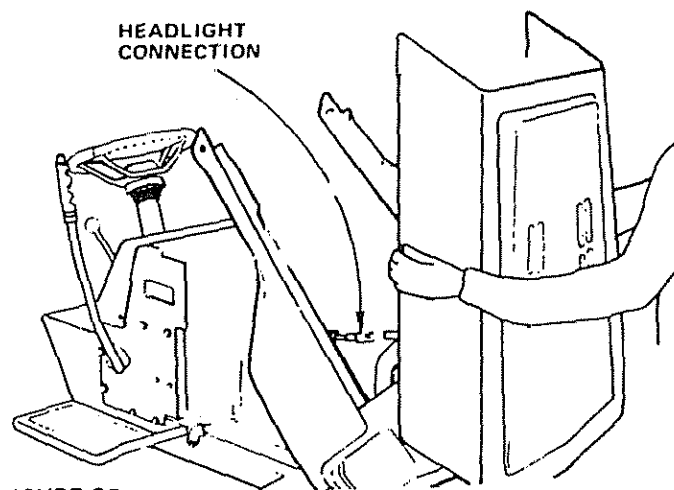

FIGURE 25
- c. Unsnap headlight connection (Fig. 25).
- d. Stand in front of tractor. Grasp hood and tilt forward and lift off (Fig. 25).